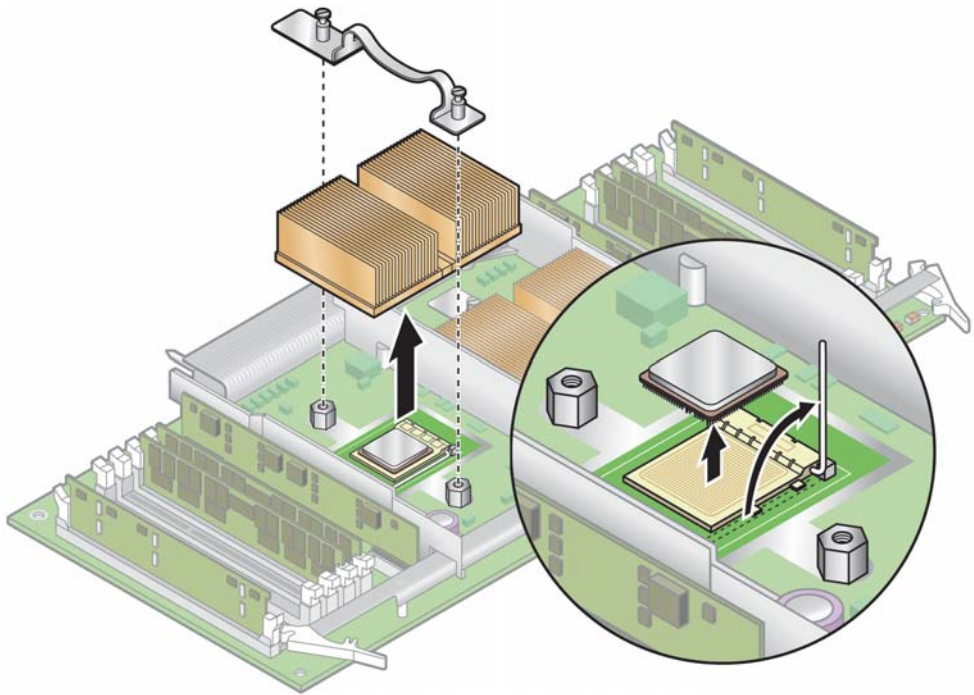

FIGURE 5-31 Removing the Securing Clip and Heatsink
6. Unfasten the two heatsink securing screws and remove the heatsink securing clip (see FIGURE 5-31).
10. Pull the socket release lever up to the fully open, perpendicular position (see FIGURE 5-31).